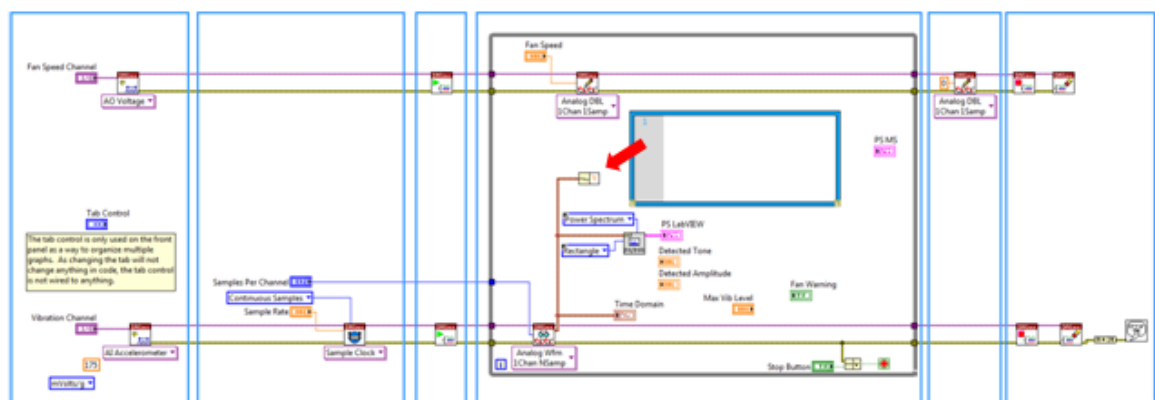

Figure 36. When you place the MathScript Node, give yourself enough room to type a few lines of text.
10. Drag a small box in the position shown in Figure 36.
11. For this exercise, you will need to use the components from the time-domain waveform. To do this, you will use the Get Waveform Attributes, which is already placed for you on the block diagram (red arrow in Figure 36). When you hover over this function, you